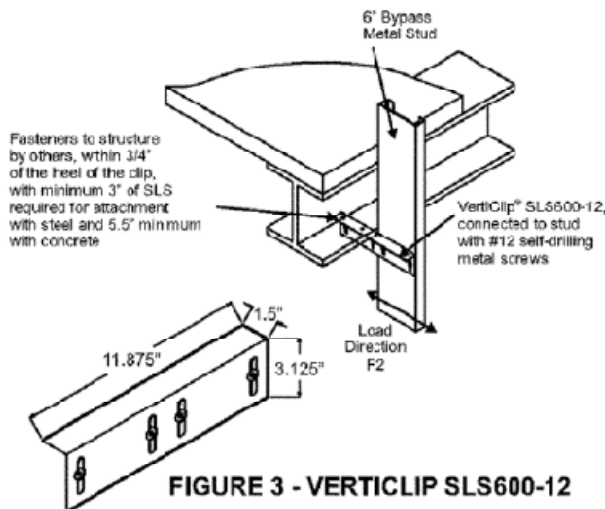

FIGURE 3 - VERTICLIP SLS600-12
3.1.4 VertiClip® SLS: The VertiClip SLS600–12 is an L-shaped angle that connects 6-inch-deep (152 mm) exterior curtain walls to a building's structural steel spandrel beam or structural concrete floor slab, while allowing for a maximum of 1½ inches (38 mm) of vertical movement between exterior wall elements and the primary structure. The minimum base-metal thickness of the clip is 0.0677 inch (1.7 mm). The designation –12 following the model number SLS600 represents the total length, in inches, of the connector. The end of the connector that is attached to the curtain wall framing members has two or three vertical slots, each ¾ inch (9.5 mm) wide by 1⅞ inches (47.6 mm) long. Refer to Figure 3 for overall dimensions of the VertiClip SLS600–12 connector and a typical installation detail.